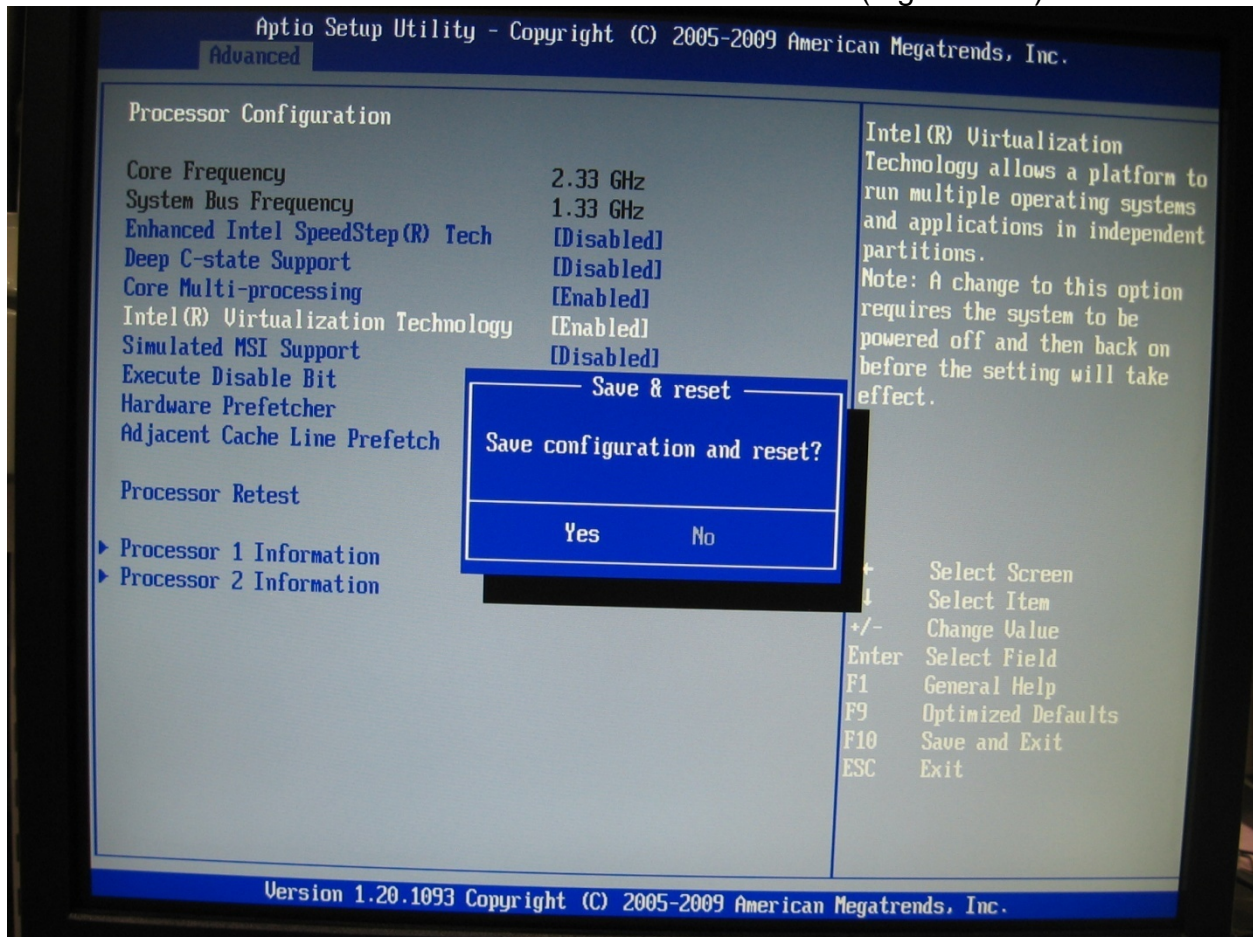

Figure 6-19 Save and Reset
9. In **Processor Confirmation** screen drop down menu **Save and Reset** select **Yes** and press **F10**. (Figure 6-19)